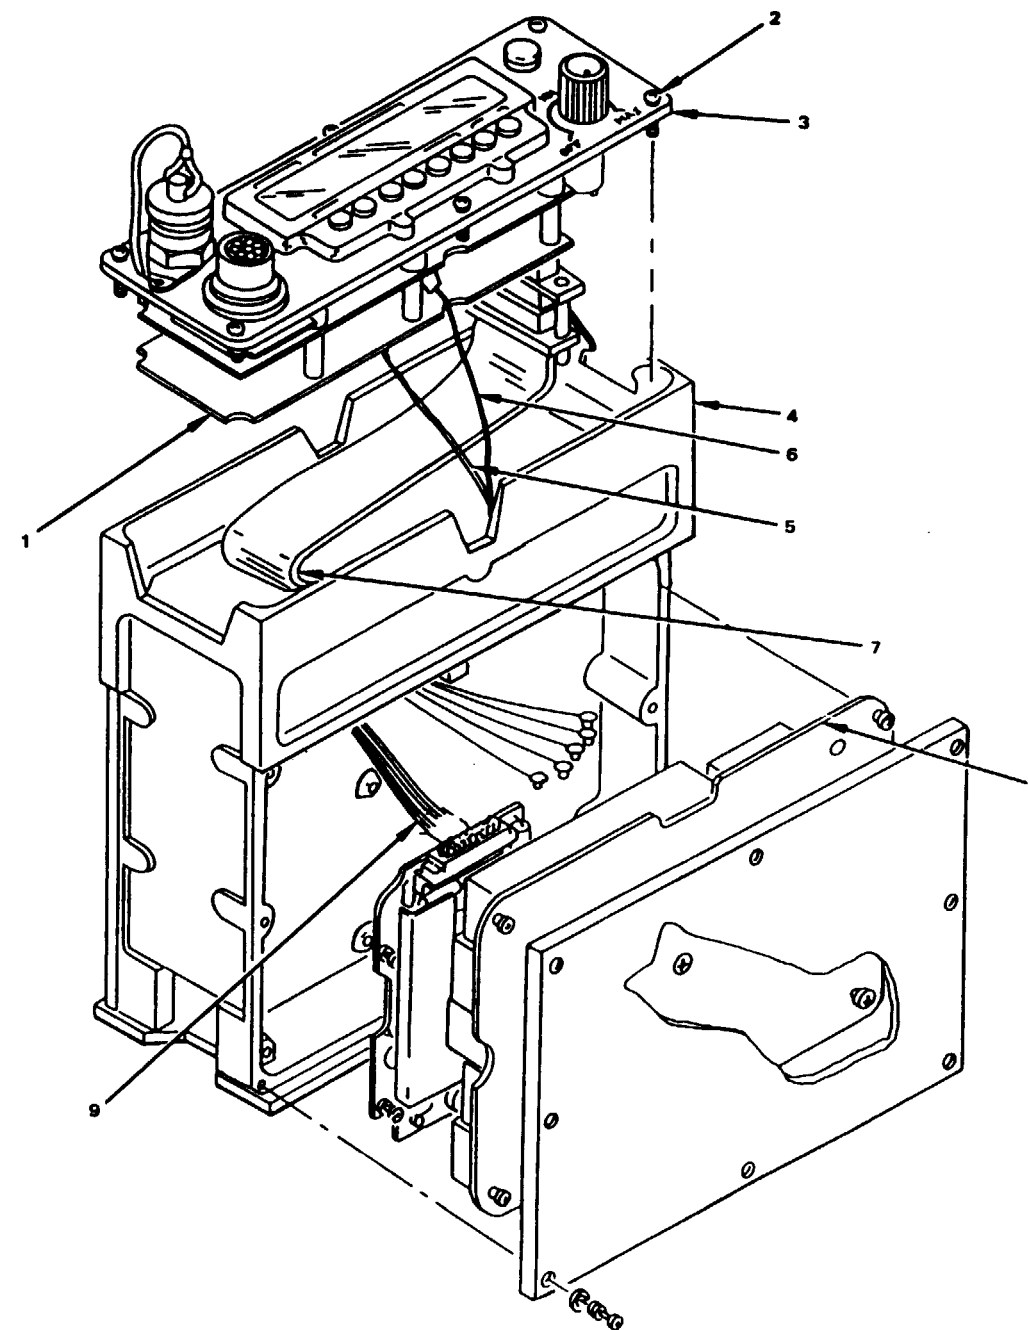

Figure 4-9. Cable W5 and W6 Removal and Replacement
**CABLE W5 REMOVAL AND REPLACEMENT, fig 4-9**
**CABLE W6 REMOVAL AND REPLACEMENT, fig 4-9****INITIAL SETUP****Tools:**